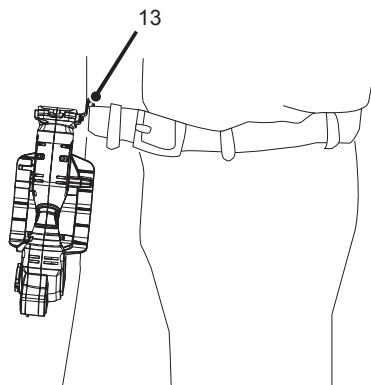

Fig. 8
4. The belt clip (13) can be hooked on your belt or pocket, etc (Fig. 8).